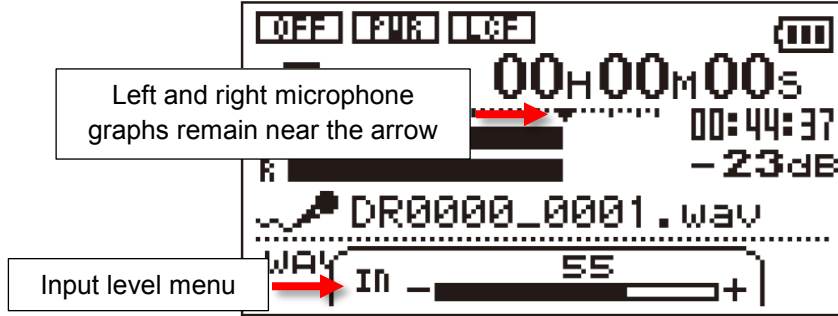

Figure 4
3. Press the Record button. Two graphs appear on the screen, one for the left (L) microphone and one for the right (R) microphone. The "Rec" light above the screen also flashes red.
5. Press the left arrow key to bring up the input level menu. Use the left and right arrow keys to adjust the input level so that the graphs for the left and right microphones remain near the downward facing arrow (Figure 4).